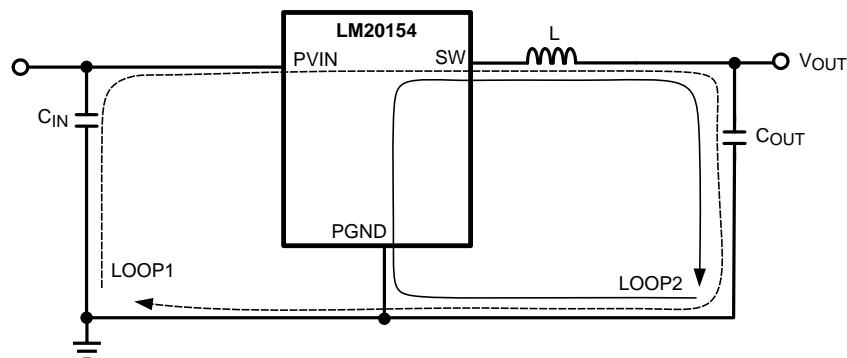

Figure 35. Schematic of LM20154 Highlighting Layout Sensitive Nodes
1. Minimize area of switched current loops. In a buck regulator there are two loops where currents are switched very fast. The first loop starts from the input capacitor, to the regulator VIN pin, to the regulator SW pin, to the inductor then out to the output capacitor and load. The second loop starts from the output capacitor ground, to the regulator PGND pins, to the inductor and then out to the load (see Figure 35). To minimize both loop areas the input capacitor should be placed as close as possible to the PVIN pin. Grounding for both the input and output capacitor should consist of a small localized top side plane that connects to PGND and the die attach pad (DAP). The inductor should be placed as close as possible to the SW pin and output capacitor.